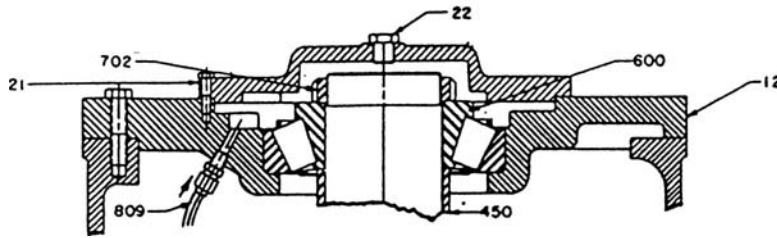

Figure 4
2.4a For SL or SSL models using a tapered roller thrust bearing (see Figure 4), use the following procedure.